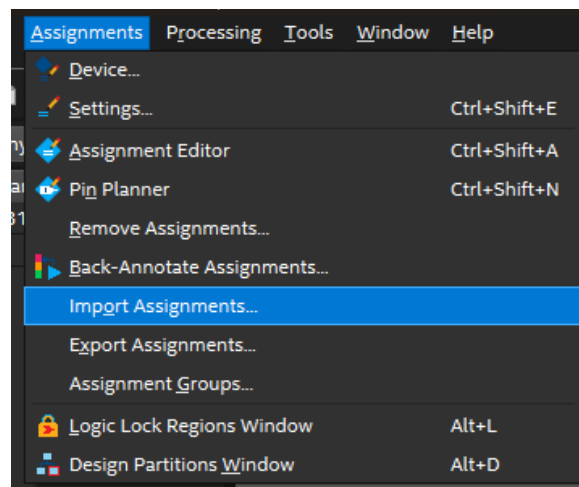

Figure 5. Import Assignments
14. To import the pin assignments into Quartus, go to the top menu and select **Assignments** → **Import Assignments...**, as shown in Figure 5.